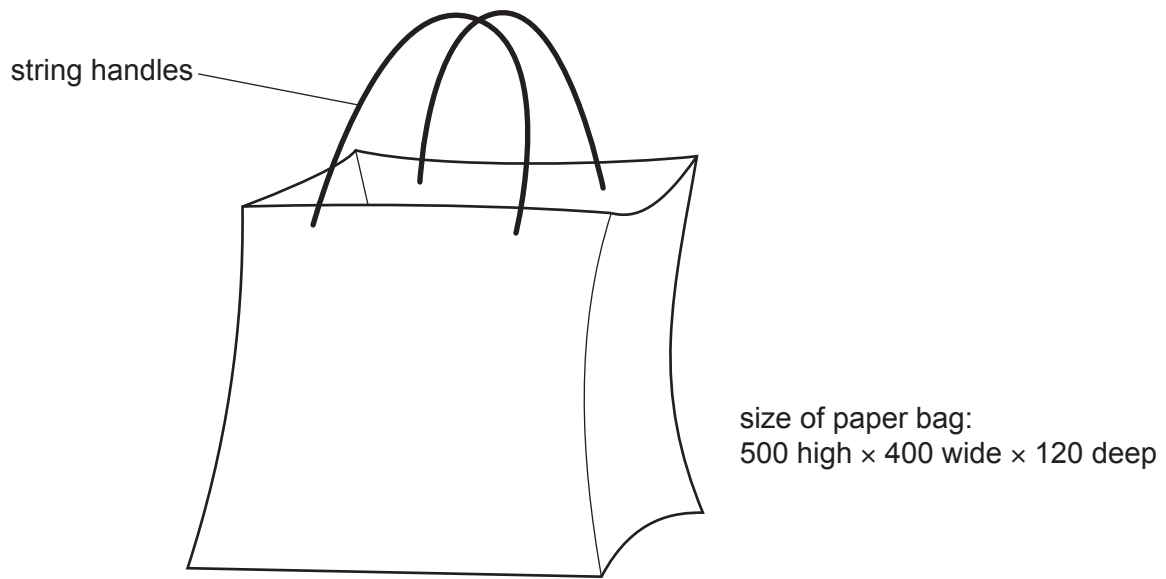

Fig. 8.1
- 8 Fig. 8.1 shows an incomplete design for a paper carrier bag. The bag is to be used by a shop selling high quality clothes.